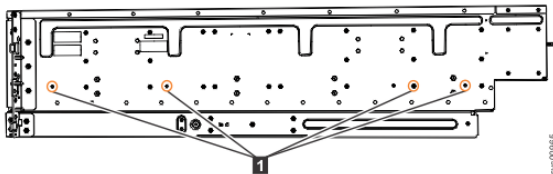

Figure 56. Screw locations to attach the inner rail to the enclosure
4. Use four M4 screws to attach the inner rail to the side of the enclosure. Figure 56 on page 55 shows the screw locations.